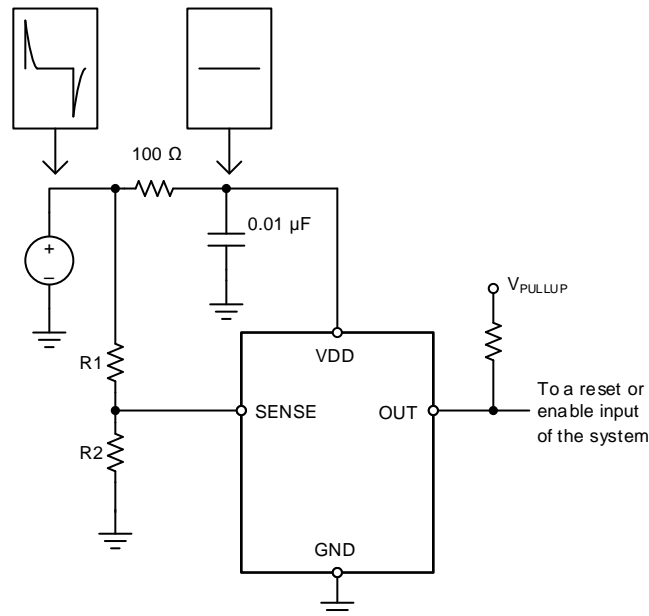

Figure 17. Using an RC Filter to Remove High-Frequency Disturbances on VDD
The TPS3711 has a 40-V absolute maximum rating on the VDD pin, with a recommended maximum operating condition of 36 V. If the voltage supply that provides power to VDD is susceptible to any large voltage transient that may exceed 40 V, or if the supply exhibits high voltage slew rates greater than $1 \text{ V}/\mu\text{s}$, then place an RC filter between the supply and VDD to filter any high-frequency transient surges on the VDD pin. In these cases, a $100\text{-}\Omega$ resistor and $0.01\text{-}\mu\text{F}$ capacitor are required, as shown in Figure 17.
- Avoid using long traces for the VDD supply node. The VDD capacitor (C_{VDD}), along with parasitic inductance from the supply to the capacitor, might form an LC tank and create ringing with peak voltages above the maximum VDD voltage. If long traces are unavoidable, see Figure 17 for an example of filtering VDD.